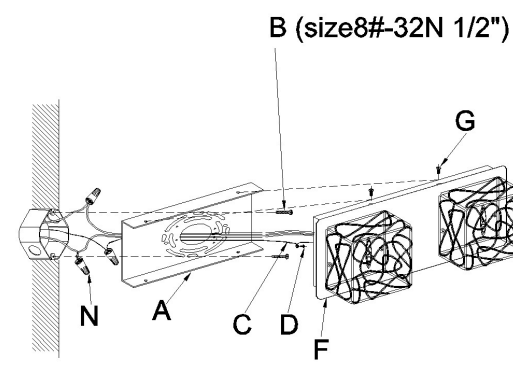

Fig.2
#### CONNECTING THE WIRES (Fig. 2)
5. Pass the black/white and bare copper wires through the opening of the mounting plate (A). Connect the electrical wire as shown in figure 2, making sure that all wire connectors are secured. If your junction box has a ground wire (green or bare copper), connect the ground wire from the fixture to it. Otherwise connect fixture ground wire directly to the mounting plate (A) using the green screw (D) provided. Tuck the wire connections neatly into the ceiling junction box as you hold the canopy towards the wall.